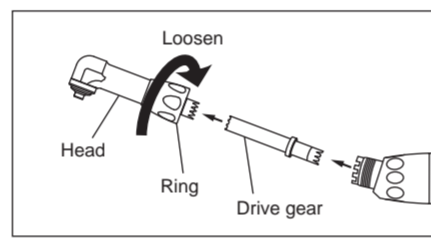

Fig. 11
- Loosen the Ring and take off the Drive Gear. (Fig.11)